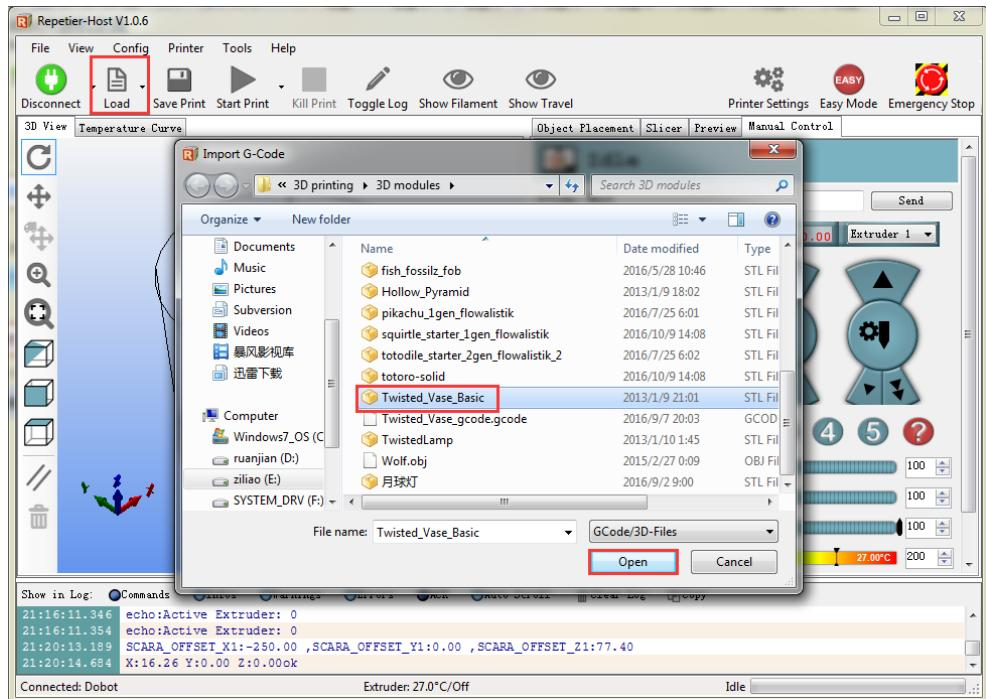

Figure 5.96 Import 3D printing model
**Step 6** Click **Load** to import the prepared 3D printing model, as shown in Figure 5.96.